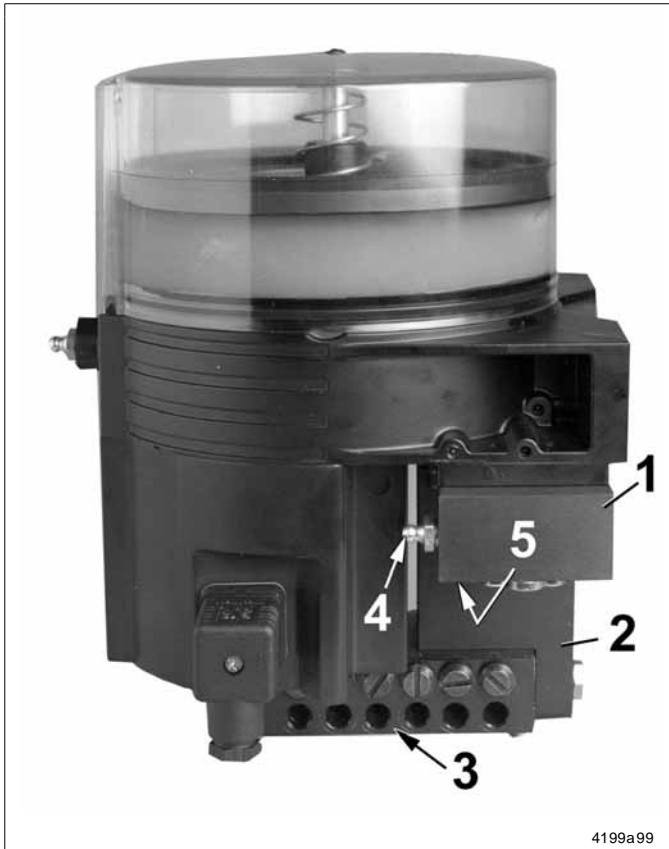

Fig. 6-1 QLS 301 with bottom mounted SSV divider block
- Fill the feed lines if necessary via the lubricating nipple 4 (Fig. 6-1 or 6-2) of the metering device with an external pump.
- SSV metering device mounted on the bottom (Fig. 6-1)